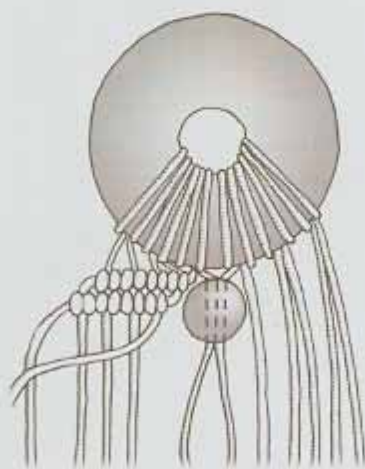

Fig. 1
1. Attach all 6 cords to the stone donut using the Mounting Hitch. Pin to the board with the cords hanging downward. The necklace is made upside down (see Figure 1).